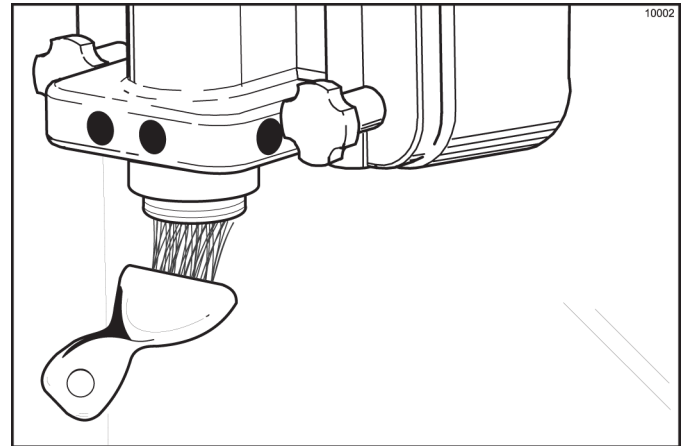

Figure 6-50
4. Return to the freezer with a small amount of sanitizing solution. With a pail below the door spout, dip the door-spout brush into the sanitizing solution and brush-clean the syrup ports in the freezer door, door spout, bottom of the driven spinner, spinner blade, and syrup line fittings. (See Figure 6-50.)